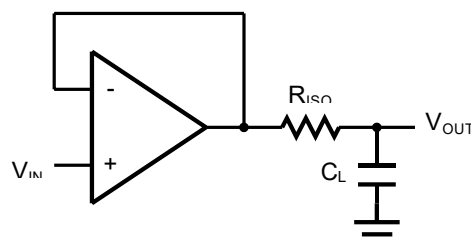
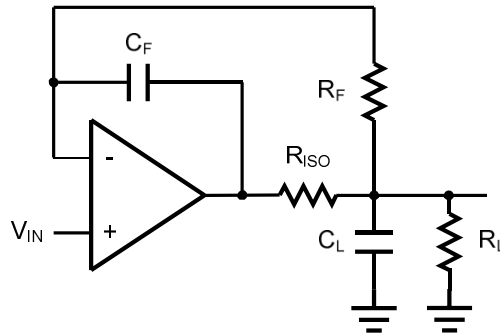

Figure 2. Indirectly Driving a Capacitive Load Using Isolation Resistor
Figure 3. Indirectly Driving a Capacitive Load with DC Accuracy
The AD805X family is optimized for bandwidth and speed, not for driving capacitive loads. Output capacitance will create a pole in the amplifier's feedback path, leading to excessive peaking and potential oscillation. If dealing with load capacitance is a requirement of the application, the two strategies to consider are (1) using a small resistor in series with the amplifier's output and the load capacitance and (2) reducing the bandwidth of the amplifier's feedback loop by increasing the overall noise gain. Figure 2. shows a unity gain follower using the series resistor strategy. The resistor isolates the output from the capacitance and, more importantly, creates a zero in the feedback path that compensates for the pole created by the output capacitance.
The circuit in Figure 3 is an improvement to the one in Figure 2. R_F provides the DC accuracy by feed-forward the V_{IN} to R_L . C_F and R_{ISO} serve to counteract the loss of phase margin by feeding the high frequency component of the output signal back to the amplifier's inverting input, thereby preserving the phase margin in the overall feedback loop. Capacitive drive can be increased by increasing the value of C_F . This in turn will slow down the pulse response.